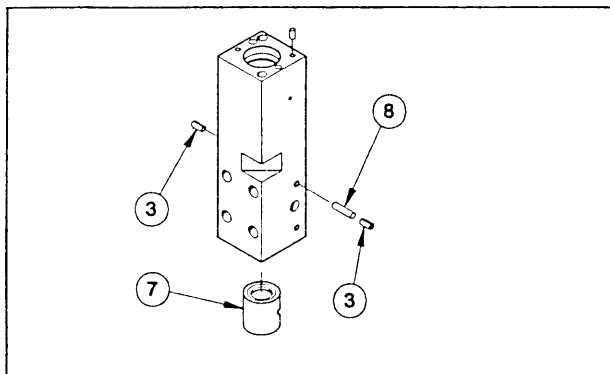

Figure 6.
1. Install a roll pin (3) into one side of the upper retainer pin hole in the lower body. Tap the roll pin in until it is flush with the side of the lower body. See figure 6.